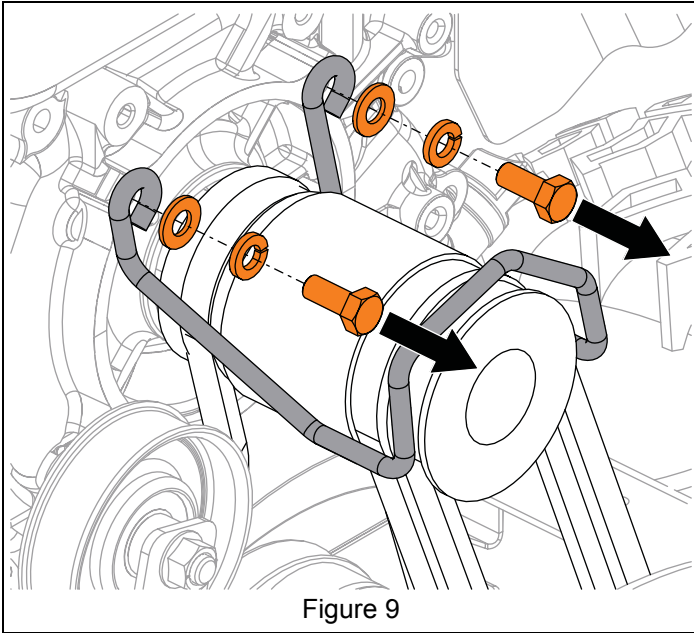

Figure 9
18. Remove hardware retaining belt finger to engine and remove belt finger. See Figure 9.